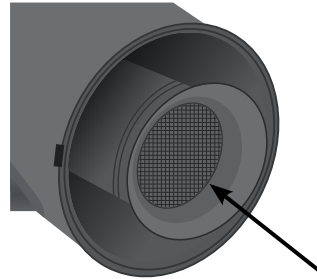

figure 13B
3. If the guard screen (wire netting) looks blocked, clean it with a scrubbing brush (**figure 13B**).